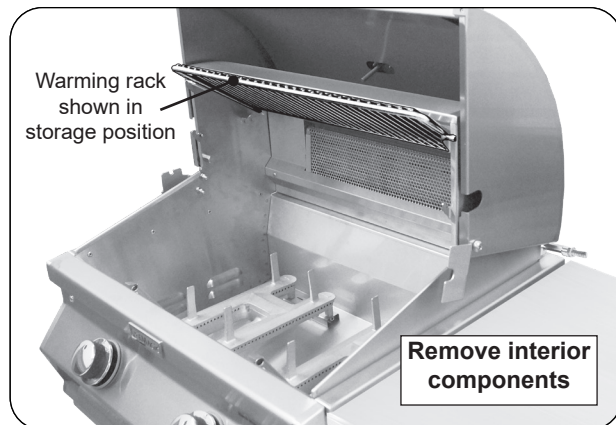

Fig. 36-1 Prepare grill for rotissing
1. On the gas side of the grill, set the warming rack to storage position, remove the backburner cover and cooking grids (see Fig. 36-1).